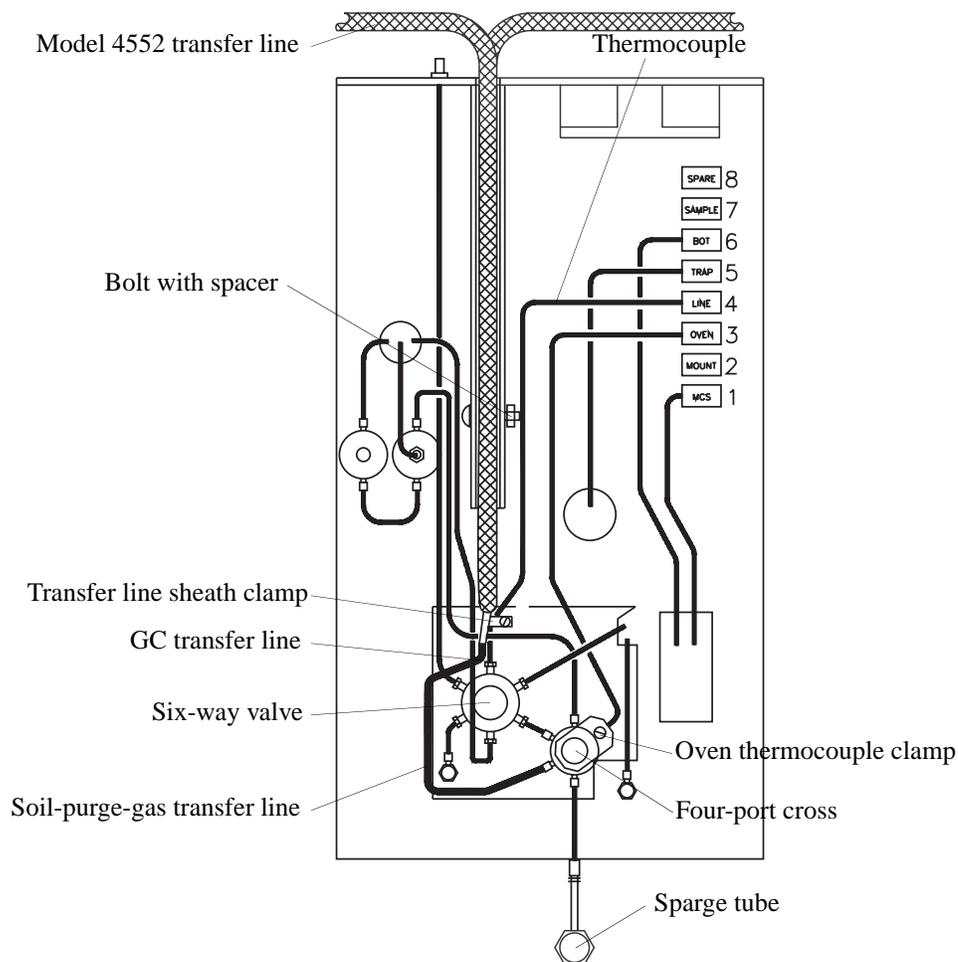

Figure 3.12. Locating the four-port cross and attaching the Model 4552 water transfer line
The Model 4552 interacts with the Tekmar 3000 through the four-port cross fitting (Figure 3.12). Attach the soil-purge-gas transfer to the Tekmar 3000 using the following procedure.
5. Bend the soil-purge-gas transfer line's end so it fits into the open port on the four-port fitting. Tighten the nut using a ¼" open-ended wrench (Figure 3.12). Be careful not to kink the line.